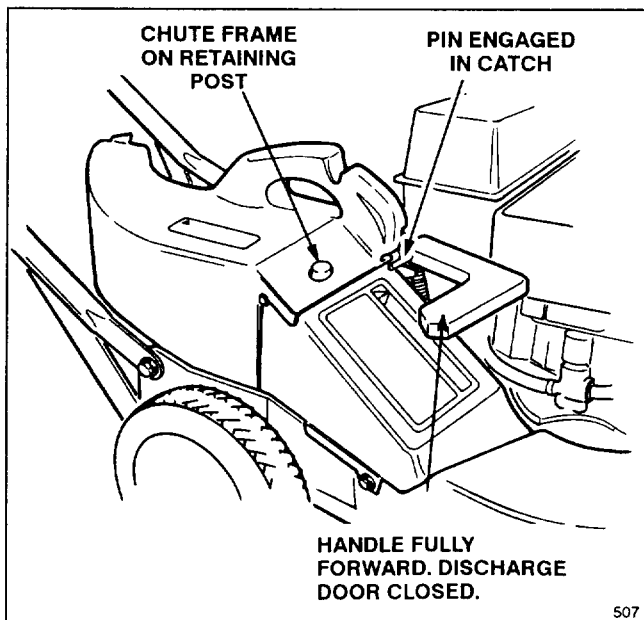

Figure 6
2. Ensure discharge door handle is fully forward and pin is engaged in catch (Fig. 6).
3. **INSTALLING CHUTE**—Slide hole in discharge chute frame onto retaining post on discharge tunnel (Fig. 6).